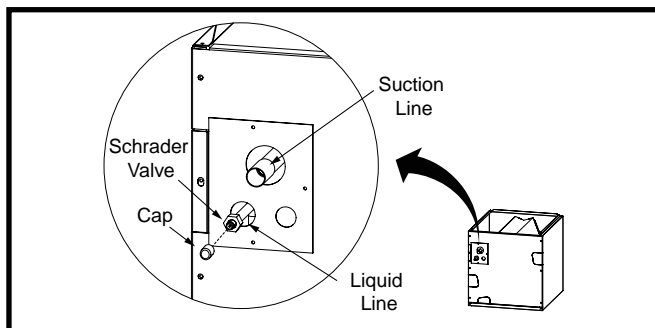

Figure 1. Suction & Liquid Line Locations
1. Remove the cap (Figure 1) from the end of the liquid line.